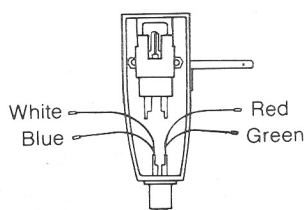

FIG. 26
4. Connect the lead wires of identical colors as shown in Fig. 26.